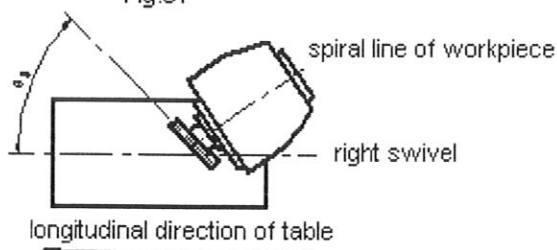

Fig.32
10.1.1 While milling the work-piece in right swivel direction(i.e the top part of the spindle is on the left side, see fig.32), the angle of both front and rear casings of the milling head will be: